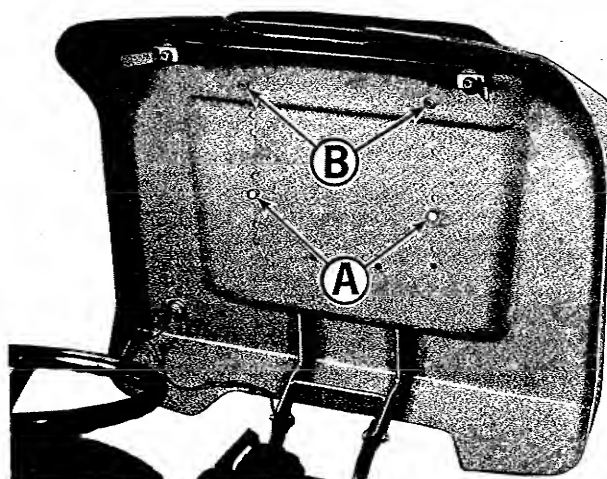
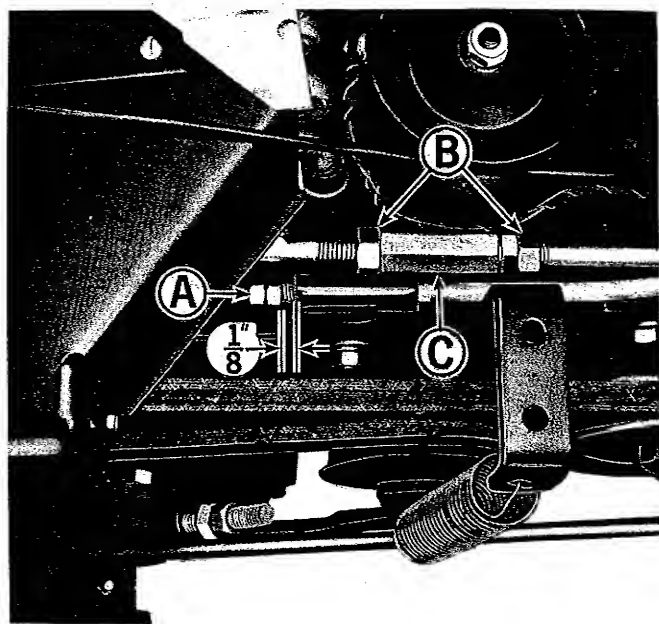

Figure 9. Seat deck raised.
Figure 10. Clutch free travel and hydrostatic transmission neutral adjustment.
locks out raise the seat deck as shown in figure 9. Raising the seat deck in this manner will expose many of the transmission adjustment and maintenance areas.
See figure 9. The tractor seat is properly adjusted when the operator can comfortably operate the clutch and brake pedal while sitting back in the seat. The seat can be adjusted forward or back in any of four positions. If adjustment is required, proceed as follows:
1. See figure 9. Position the seat deck as shown by following the instructions under Raising the Seat Deck on page 10.
2. Remove the two cap screws and lock washers at (A).
3. Remove the two nuts and lock washers at (B).
4. If the seat is to be positioned in either of the two forward sets of mounting holes the two rubber spacers are placed over the studs at (B) and used between the seat and seat deck. If
See figure 10. The clutch free travel is correct when there is 1/8" between the nuts (A) and the rod guide when the clutch brake pedal is released and pulled rearward as far as it will go. If adjustment is required, proceed as follows:
1. Raise the seat deck as shown in figure 9, by following the instructions under Raising the Seat Deck on page 10.
2. Using two wrenches hold the forward nut at (A) stationary with one wrench while turning the rearward nut counter-clockwise slightly with the other to separate them.
4. Turn the forward nut at (A) as necessary so that the distance between it and the rod guide is 1/8" as shown in figure 10.
5. Using two wrenches hold the forward nut at (A) stationary while turning the rear one clockwise to tighten the two nuts together securely.
3. See figure 10. Loosen the two locking nuts (B) on either end of turnbuckle (C).
7. Jack up and block the rear of the tractor, so the rear wheels are free to turn. Use an open end wrench to rotate the turnbuckle (Figure 10, item C) until the rear wheels do not rotate. When the rear wheels do not rotate when the engine is running at 1/3 full speed, the hydrostatic neutral adjustment is correct.
9. See figure 10. After allowing the belt and pulleys to stop turning, use two wrenches to tighten the locking nuts (B) against turnbuckle (C). Tighten the locking nuts (B) one at a time, while using the other wrench to hold turnbuckle (C) from rotating.